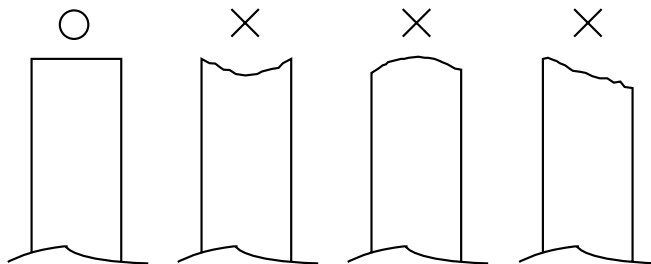

Figure 3-4 Shape of paper edge
1. Cut the edge of the paper as shown in Figure 3-4.